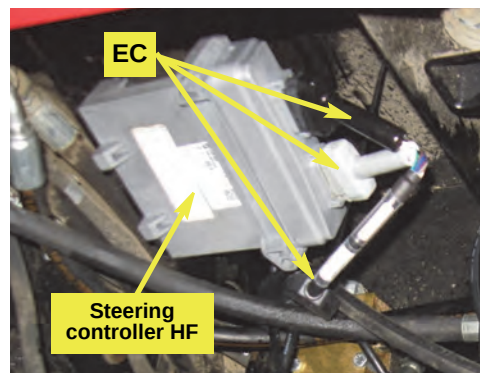

Figure 2b: Steering controller's two 12-pin connections
- b. Connect steering controller cable **EC**'s two 12-pin connectors (black and gray) to their respective sockets on the steering controller **HF** (Figure 2b).